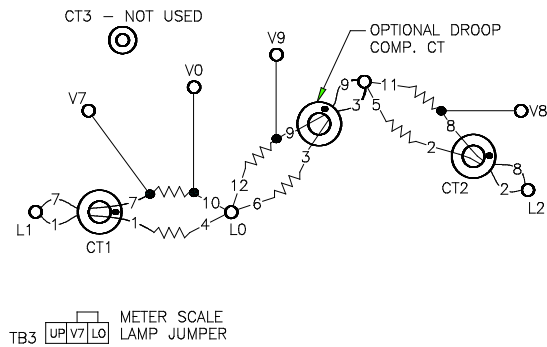

Figure 3-3 12-Lead Generator Reconnection, 2 of 2
Three-phase, 12-lead generator sets are reconnectable to the voltages and phases shown on the generator set specification sheet. See Figure 3-2 and Figure 3-3 for the applicable three-phase configurations and single-phase dogleg configuration. Use the following procedure to reconnect the generator to the desired voltage configuration, change the system voltage setting, and adjust the output voltage.
4. Select desired voltage connection. See Figure 3-3. Connect the leads according to the diagram for desired phase and voltage.